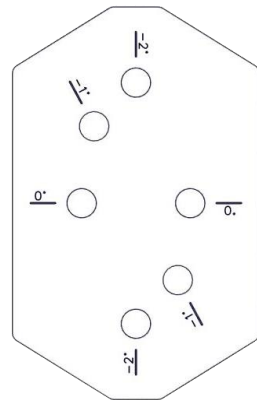

Figure 6: Bottom bracket
- If a tilt other than 0 degrees is desired, reposition the antenna according to the hole numbering on tilt select arm 10, *Figure 5*, and downtilt *Table 2*. For bottom bracket 8, *Figure 6*, use 0 degrees for downtilt, and -1 or -2 degrees for uptilt. Then tighten all fasteners to 20 lb-ft.